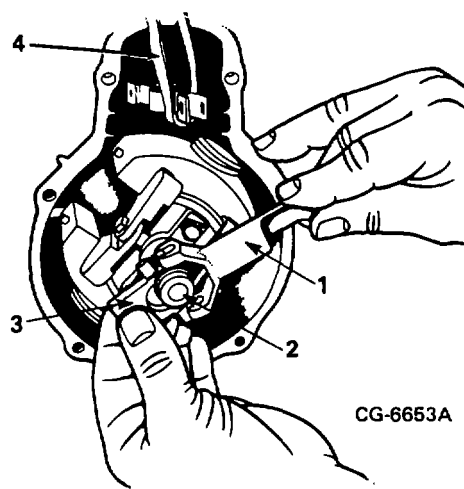

Figure 11. Removing Floating Lever and Slider
8. Pull top of floating lever back and down to remove floating lever and slider (Figure 11) from guide bushing.
NOTE: Use a rubber band or wire around delivery valve secure rack link-up to prevent link damage (Figure 11).